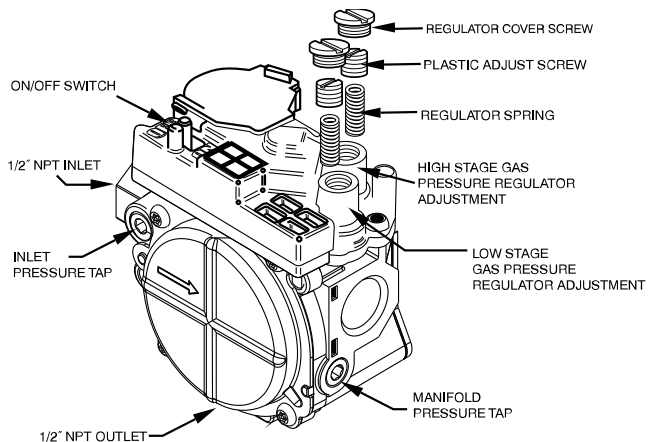

Fig. 40 – Two-Stage Gas Valve (208/230 VAC Models)
1. Remove regulator cover screw(s) over plastic adjustment screw(s) on gas valve (see Fig. 40).
2. Turn the high stage plastic adjustment screw clockwise to increase gas input and counterclockwise to decrease input (see Fig. 40). Manifold pressure must be between 3.2 and 3.8 IN. W.C. for high stage.
3. Replace high stage regulator cover screw on gas valve (see Fig. 40).
4. Turn the low stage plastic adjustment screw clockwise to increase gas input and counterclockwise to decrease input (see Fig. 40). Low stage manifold pressure must be between 1.4 and 2.0 IN. W.C.
5. Replace low stage regulator cover screw(s) on gas valve (see Fig. 40).